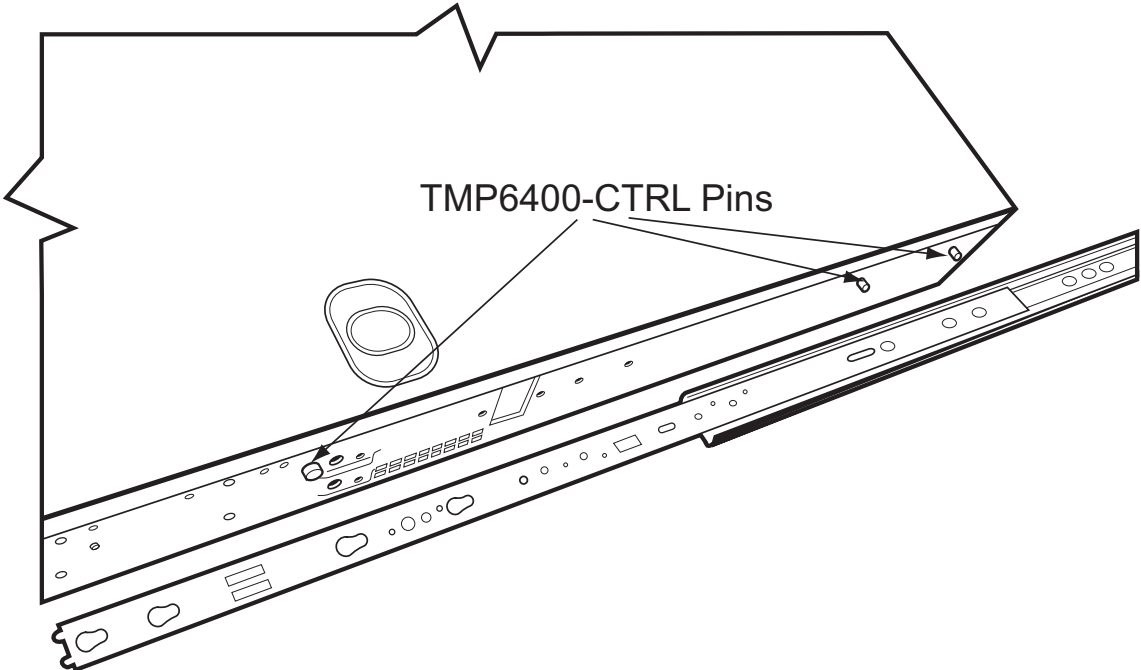
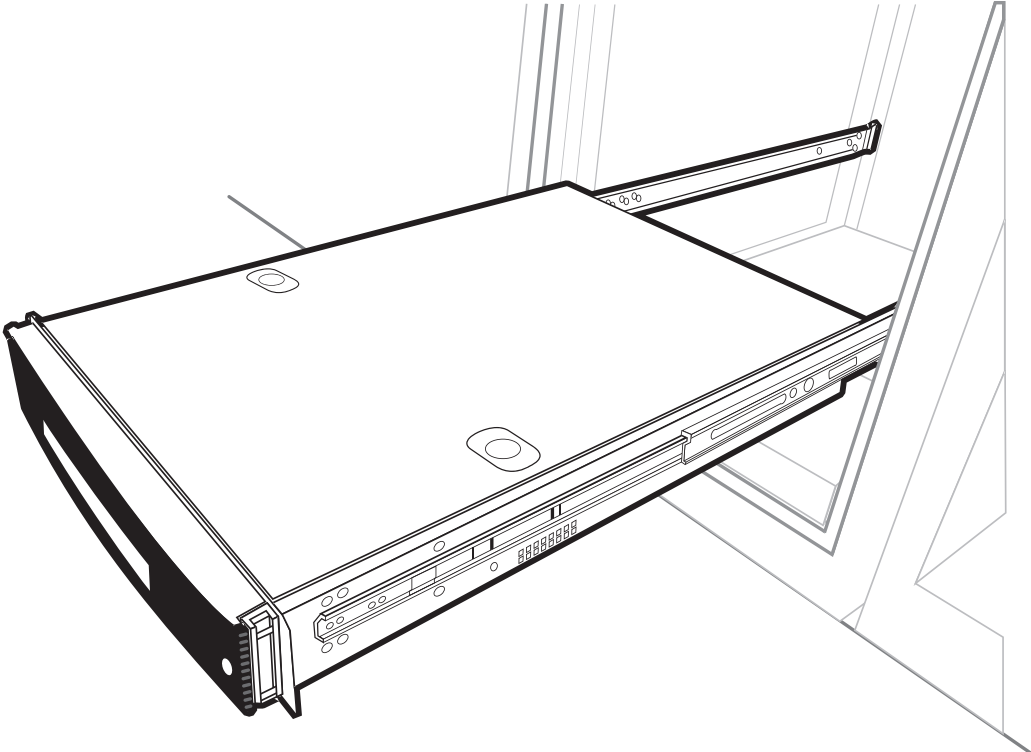

Figure 2.5 Attaching Sliding Rails to the TMP6400-CTRL Mounting Pins
Figure 2.6 TMP6400-CTRL Installed on Slider Rails in the Fully Extended Position
4. Attach the TMP6400-CTRL to the rails. See figure 2.5 on page 15 and figure 2.6 on page 15.